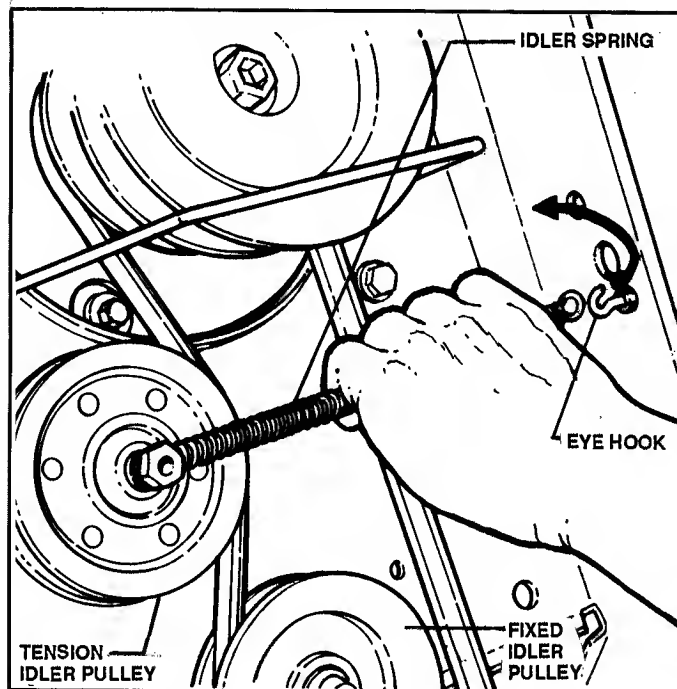

FIGURE 34
6. Disconnect IDLER SPRING. See Figure 34.